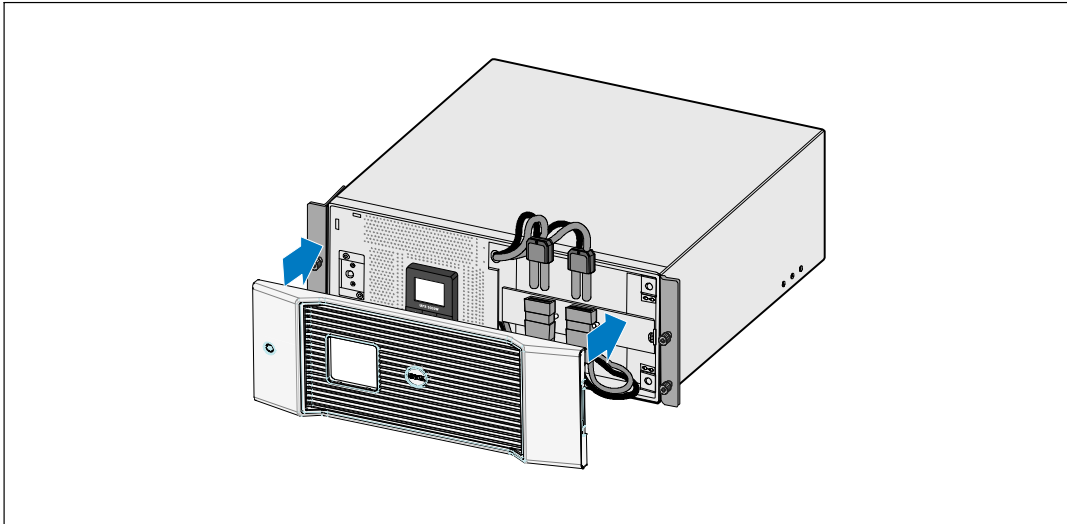

Figure 26. Replacing the UPS Front Cover
- 5 Replace the UPS front cover (see Figure 26).